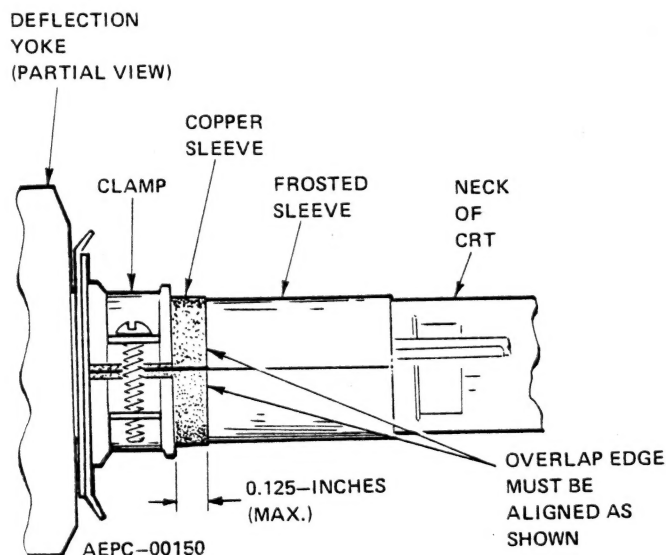

Figure 1. Partial View of CRT Neck/Deflection Yoke for Horiz. Linearity Adjustment
Step 3. (Refer to Figure 1.) Loosen the deflection yoke clamp screw just enough to permit sliding the copper sleeve on the CRT neck back and forth.
Step 4. (Refer to Figure 1.) Position the copper sleeve so that only $1/8"$ (.125") extends out past the rear lip of the deflection yoke. In addition, be sure that the overlap edge of the copper sleeve is aligned properly and not twisted.